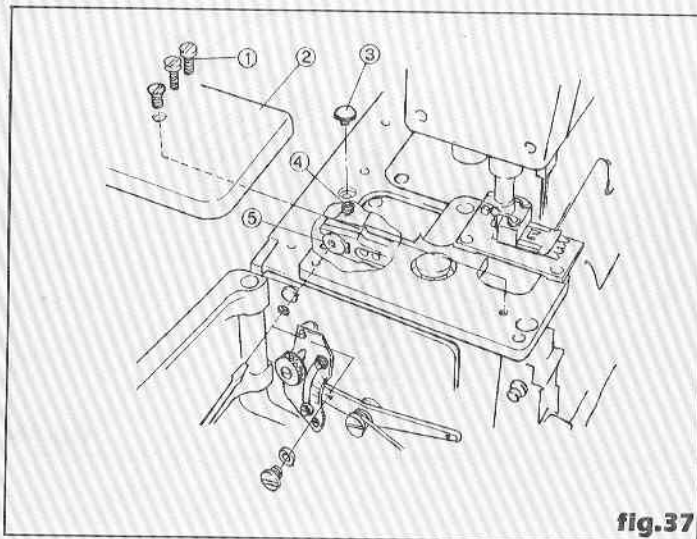

fig.37
To adjust, remove the 3 screws (1) and the cover (2) (3). Loosen the screw (4) and turn the screw (5) to adjust the feeding tilt. (fig 37)